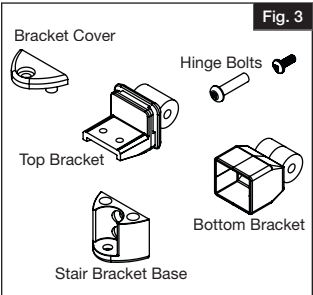

Fig. 3
- d. Align top rail and top rail cap with bottom rail and mark all before cutting to size. Then cut all to same length with a fine-tooth carbide blade. (Fig. 3).
- From marked lines, mark additional parallel line $\frac{1}{4}$ " from first line to allow for bracket clearance (Fig. 3).
Temporarily assemble top and bottom stair mounting brackets. Brackets slide into bracket bases, bracket cover is aligned, and the bracket is fastened together using the hinge bolt provided (Fig. 3 & 4).
- Temporarily assemble top and bottom level angle brackets. Mounting brackets slide into bracket base, bracket cover is aligned, and the bracket is fastened together using the hinge bolt provided (Fig. 3).